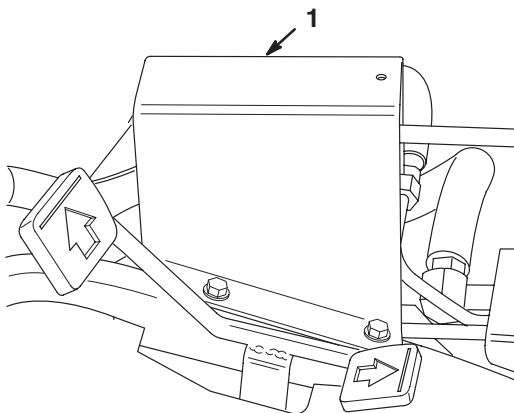

Figure 45
1. Place 1, 2, and 3 spools in neutral (center of travel) and remove the transfer rod guard from the foot panel (Fig. 45).